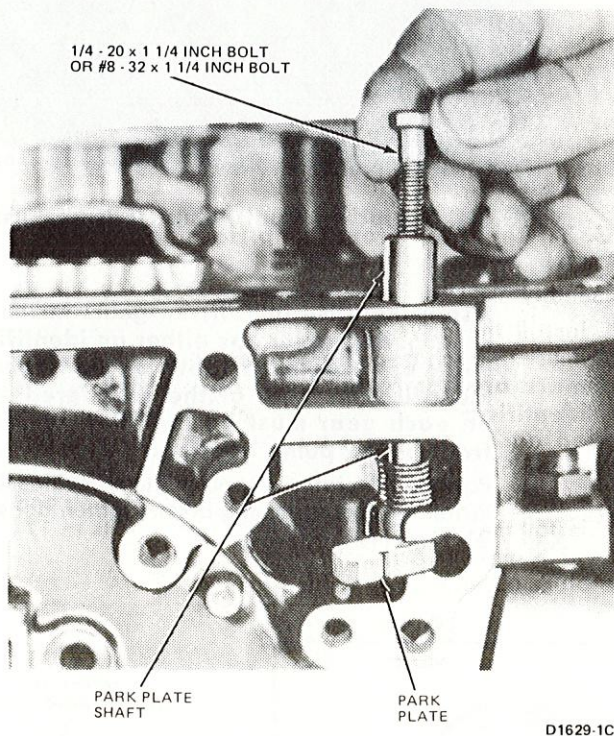

FIG. 29 Removing Park Plate
5. Thread a 1/4-20 inch or 8-32 x 1-1/4 inch screw (Fig. 29) into the park plate shaft. Pull the shaft from the case with the screw. Remove the spring and park plate.